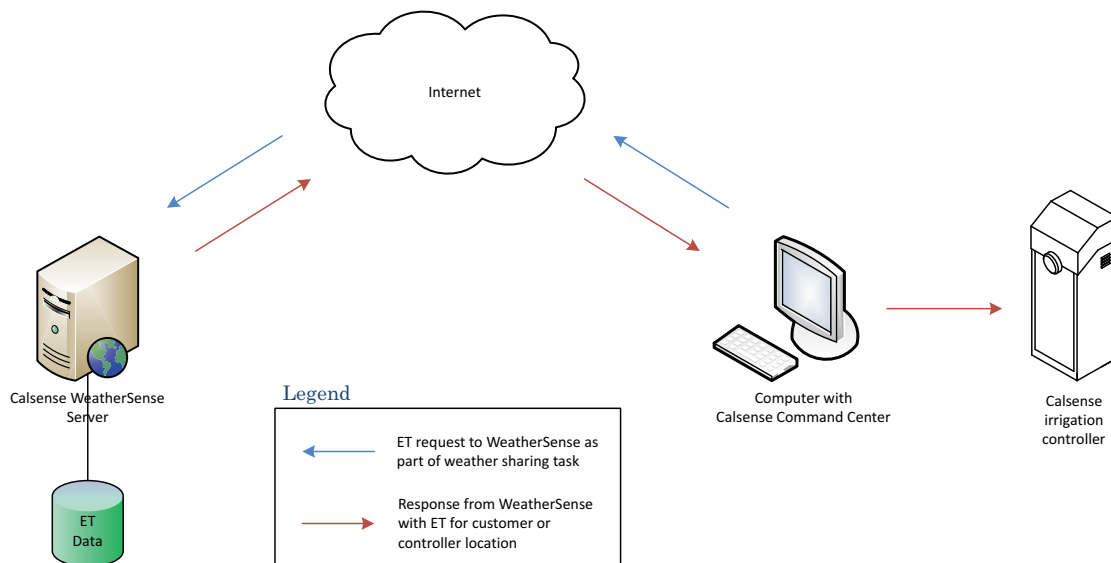

Figure 19 - *WEATHERSENSE* Overview
WEATHERSENSE is a free feature available in both the Calsense Command Center Central Water Management Software and Command Center for the Web, which retrieves real-time evapotranspiration (ET) data without the need for an on-site ET Gage or weather station (*Figure 19*). This information can be shared to controllers in the field the same way that traditional weather sharing works.